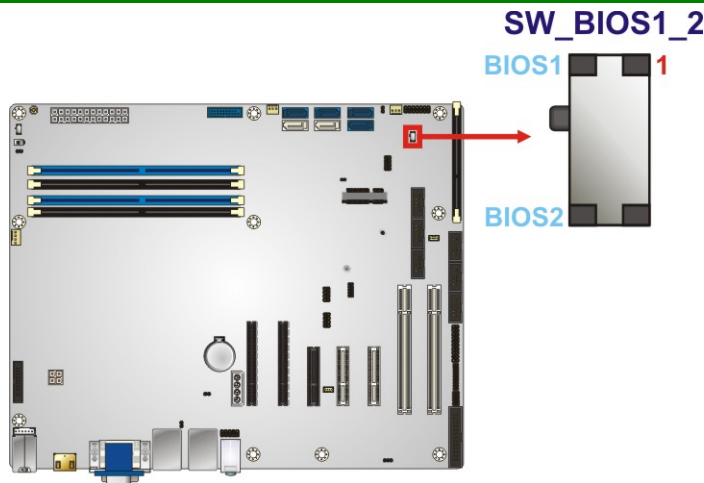

Figure 4-18: BIOS1/BIOS2 Switch Location
The IMBA-C2360-i2 equips with dual BIOS to support flexible I/O configuration. To switch BIOS1 to BIOS2 or BIOS2 to BIOS1 successfully, please follow the steps below and refer to **Figure 4-18** and **Table 4-2** for the BIOS switch location and settings.
- Step 2:** Switch BIOS1 to BIOS2 or BIOS2 to BIOS1 by moving the BIOS switch to BIOS1 or BIOS2 position as shown in **Figure 4-18**.